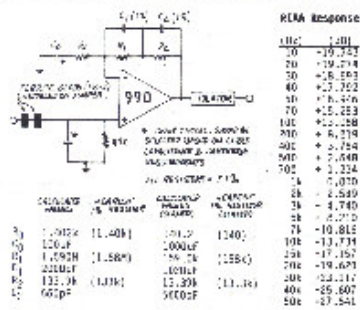

FIGURE 2: PHASE PRE-AMPLIFIER
Figure 2 shows a phase pre-amplifier with related component values and approximate Bode response figures. The circuit will result in an extremely accurate Bode response, typically better than 0.1 dB, provided the values and tolerances are maintained. The values are taken from a paper by Lushitzki (1) which thoroughly covers Bode equalization methods and their error design. For specific design information, formulas, etc. refer to that paper.